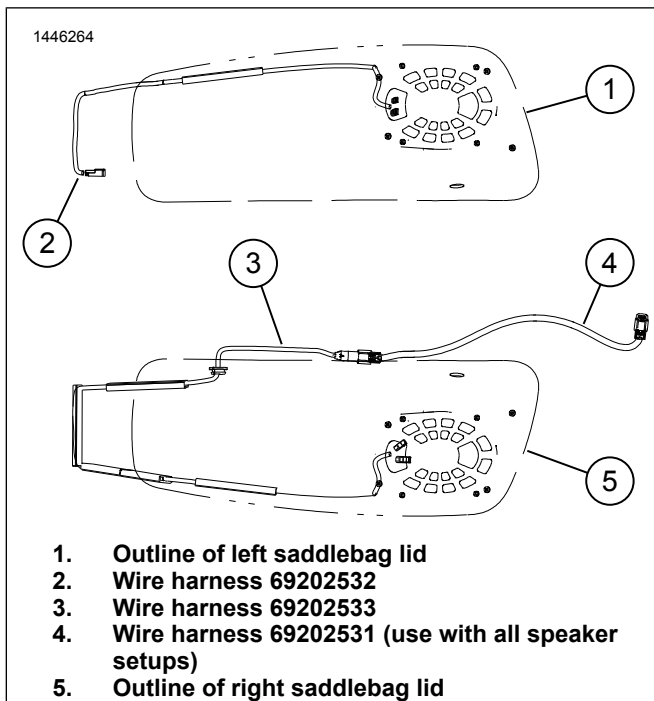
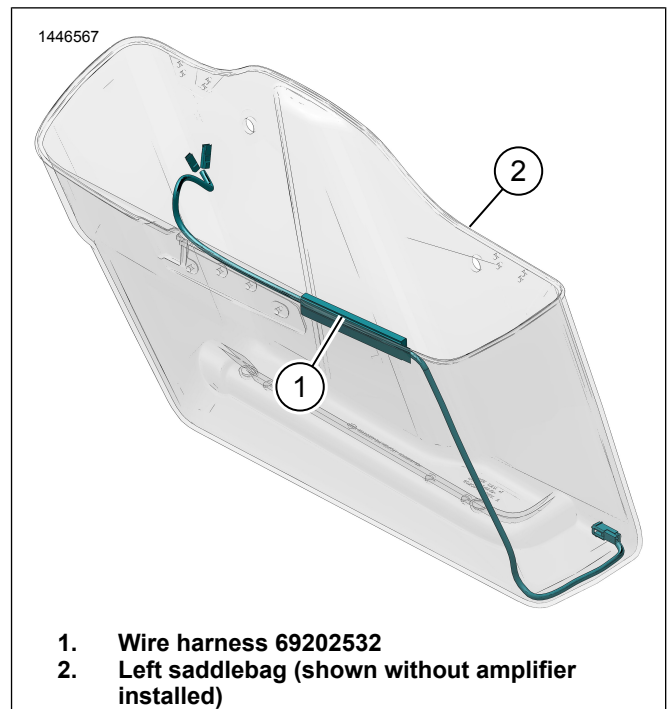
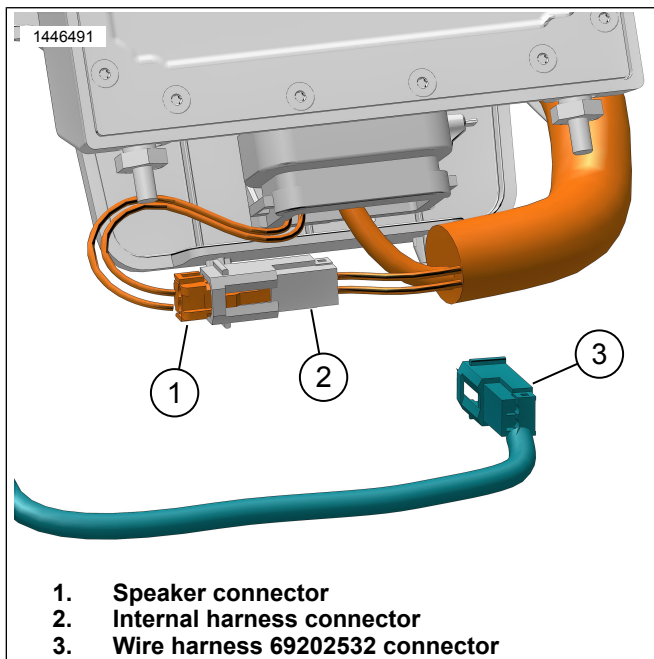
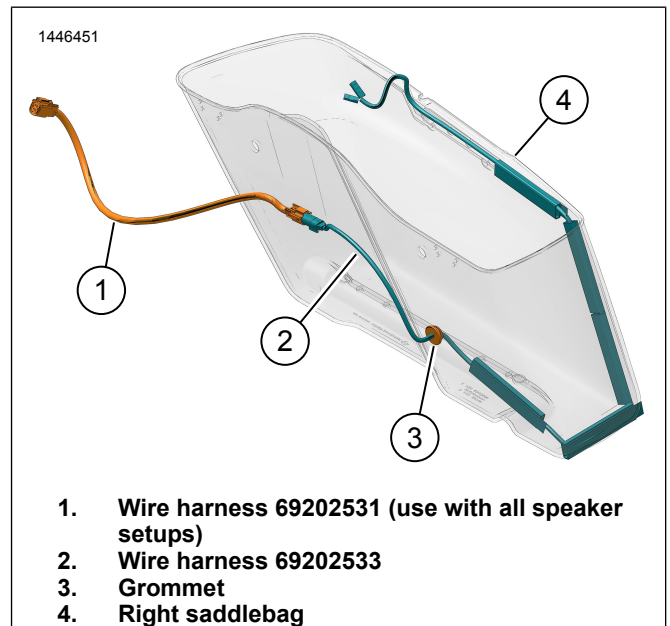

Figure 2. Wire Harness Setup and Routing
Figure 4. Left Saddlebag Harness Routing
Figure 3. Left Saddlebag Speaker Connection
Figure 5. Right Saddlebag Harness Routing (Without Amplifier)
- a. Figure 2 Locate wire harness 69202532 (2).
- b. Figure 3 Disconnect speaker connector (1) from internal harness connector (2).
- c. Connect wire harness connector (2) to speaker connector (1).
2. Figure 4 Install left speaker wire harness.
- a. Route wire harness (1) as shown.
3. Figure 5 Install right speaker wire harness.
- a. Figure 2 Locate wire harness 69202533 (3).
- b. Route wire harness (2) as shown.
- f. Route wire harness (2) through grommet hole.
- g. Install grommet (3) on wire harness (2).
- h. Adjust grommet (3) as needed and install in saddlebag.
4. Figure 2 Locate wire harness 69202531 (4).
- a. Connect 4-way of 69202531 (4) to primary amplifier harness connector [351A] under right side cover.
5. Figure 5 Connect harnesses (1 and 2.)